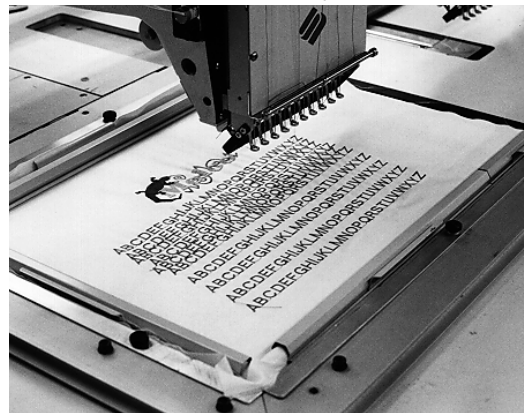

Figure 3-7
6. Beginning in the rear, push the clamps down over the rear clip support. Make certain the lifting tabs face away from the sewing field (refer to Figure 3-7).